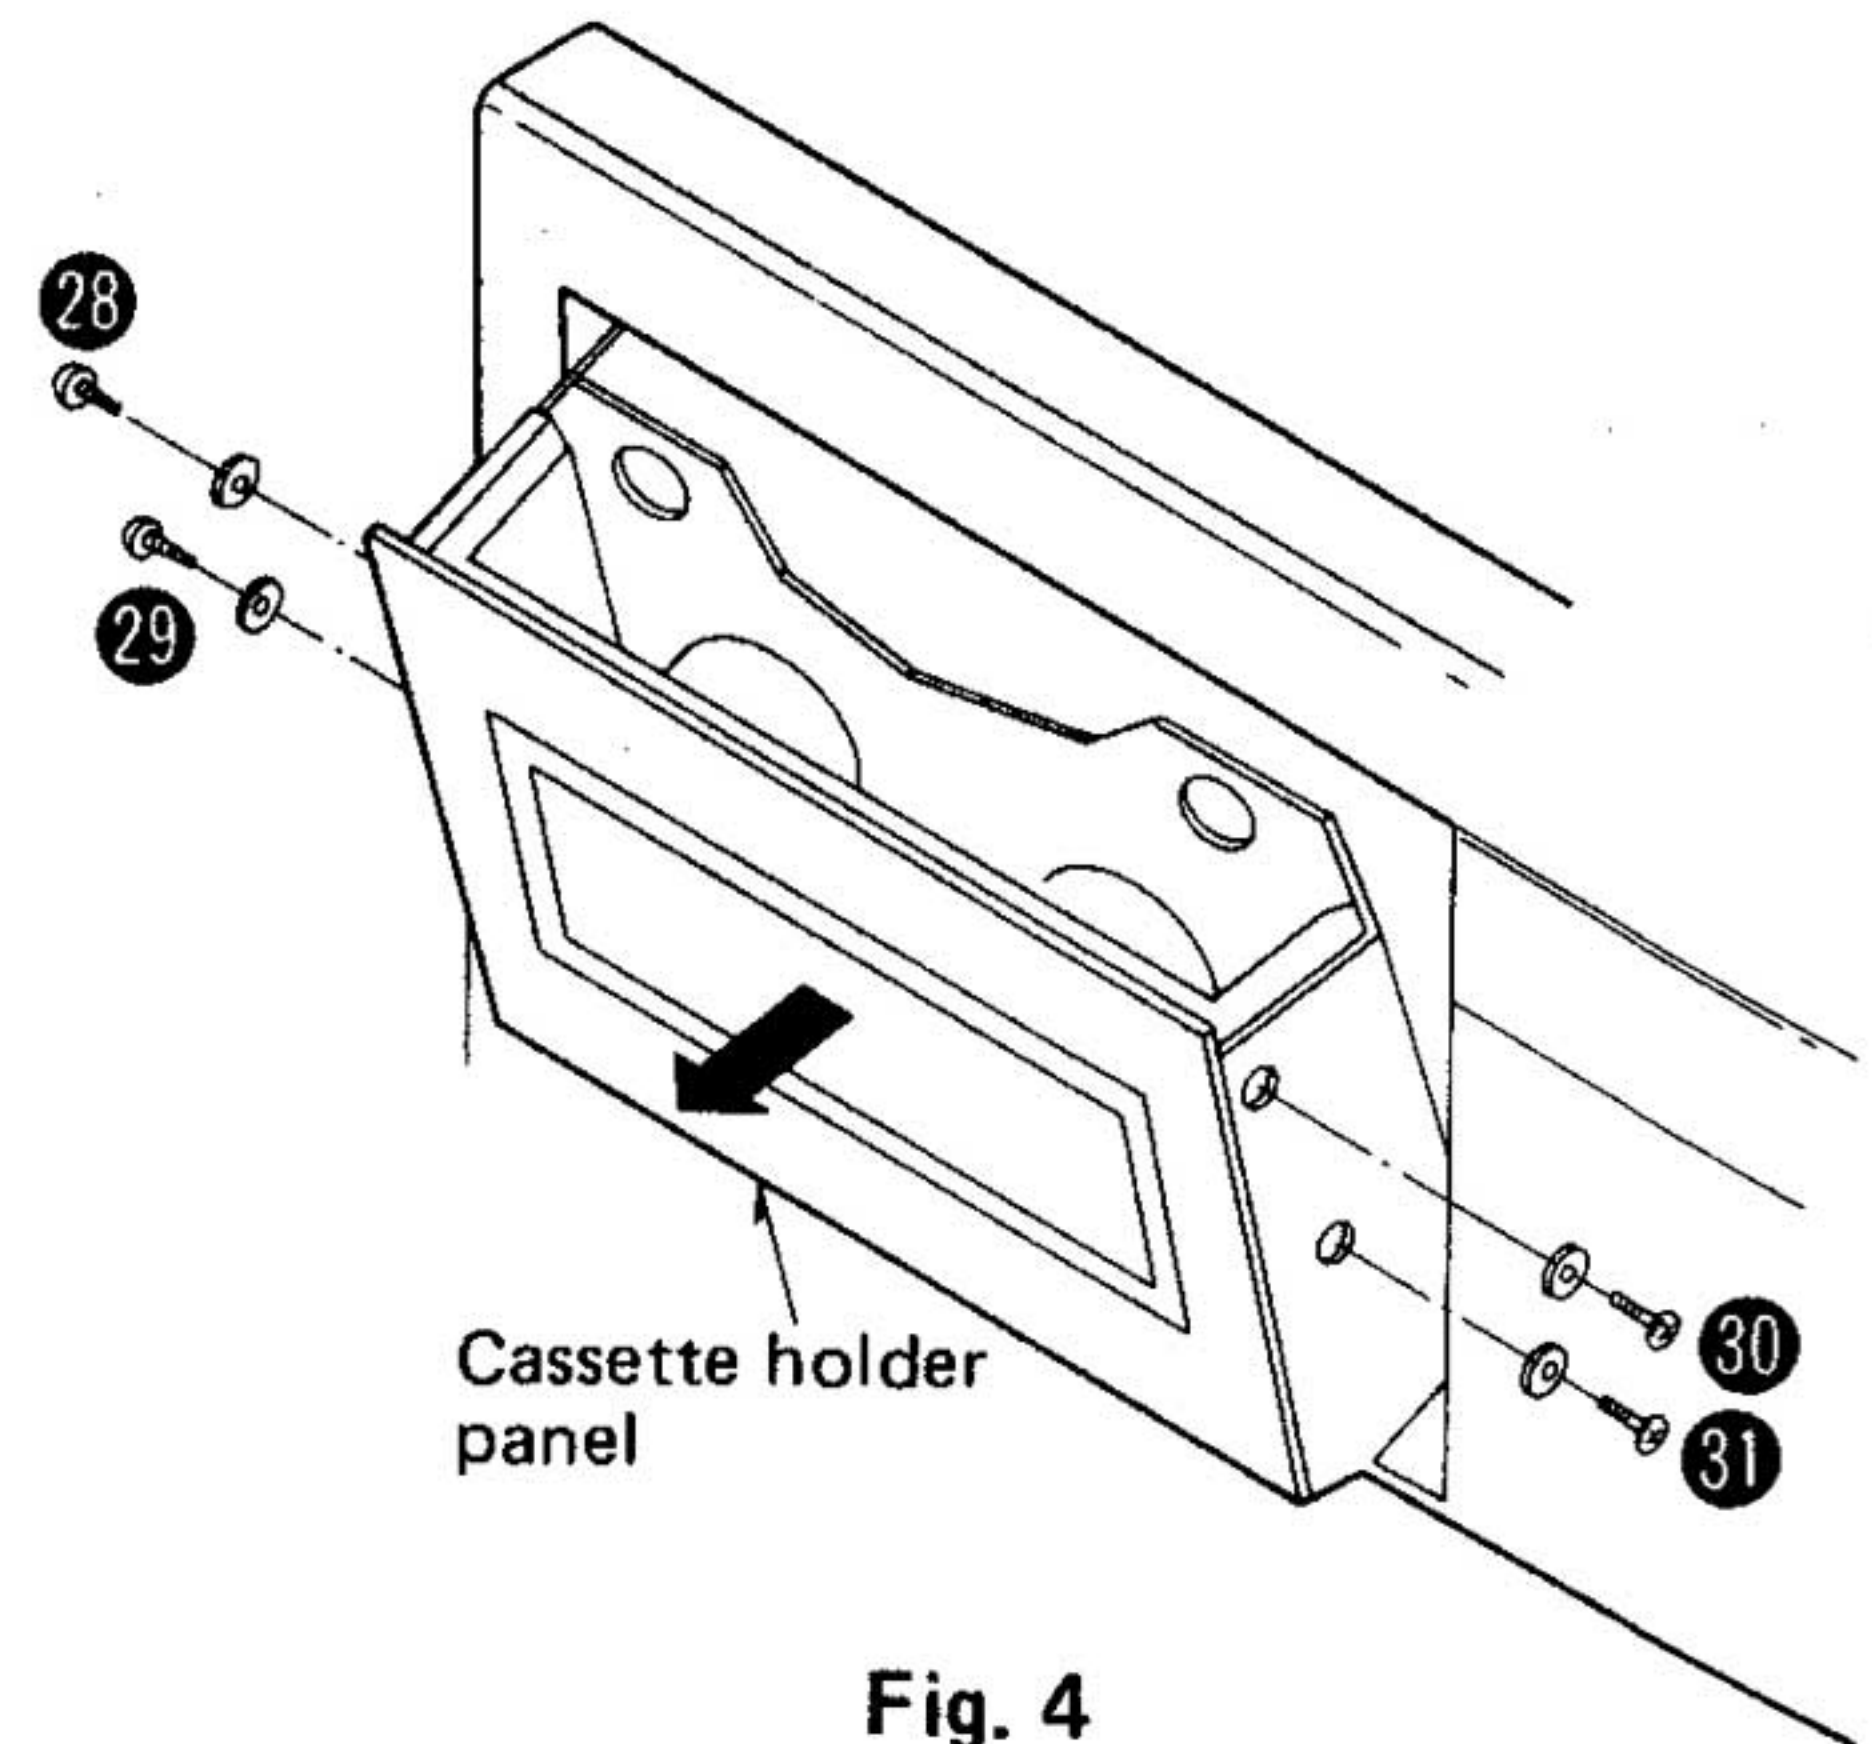

Fig. 4
3. Remove the 4 setscrews (Fig. 4 : ㉘ ~ ㉛) of the cassette holder panel.